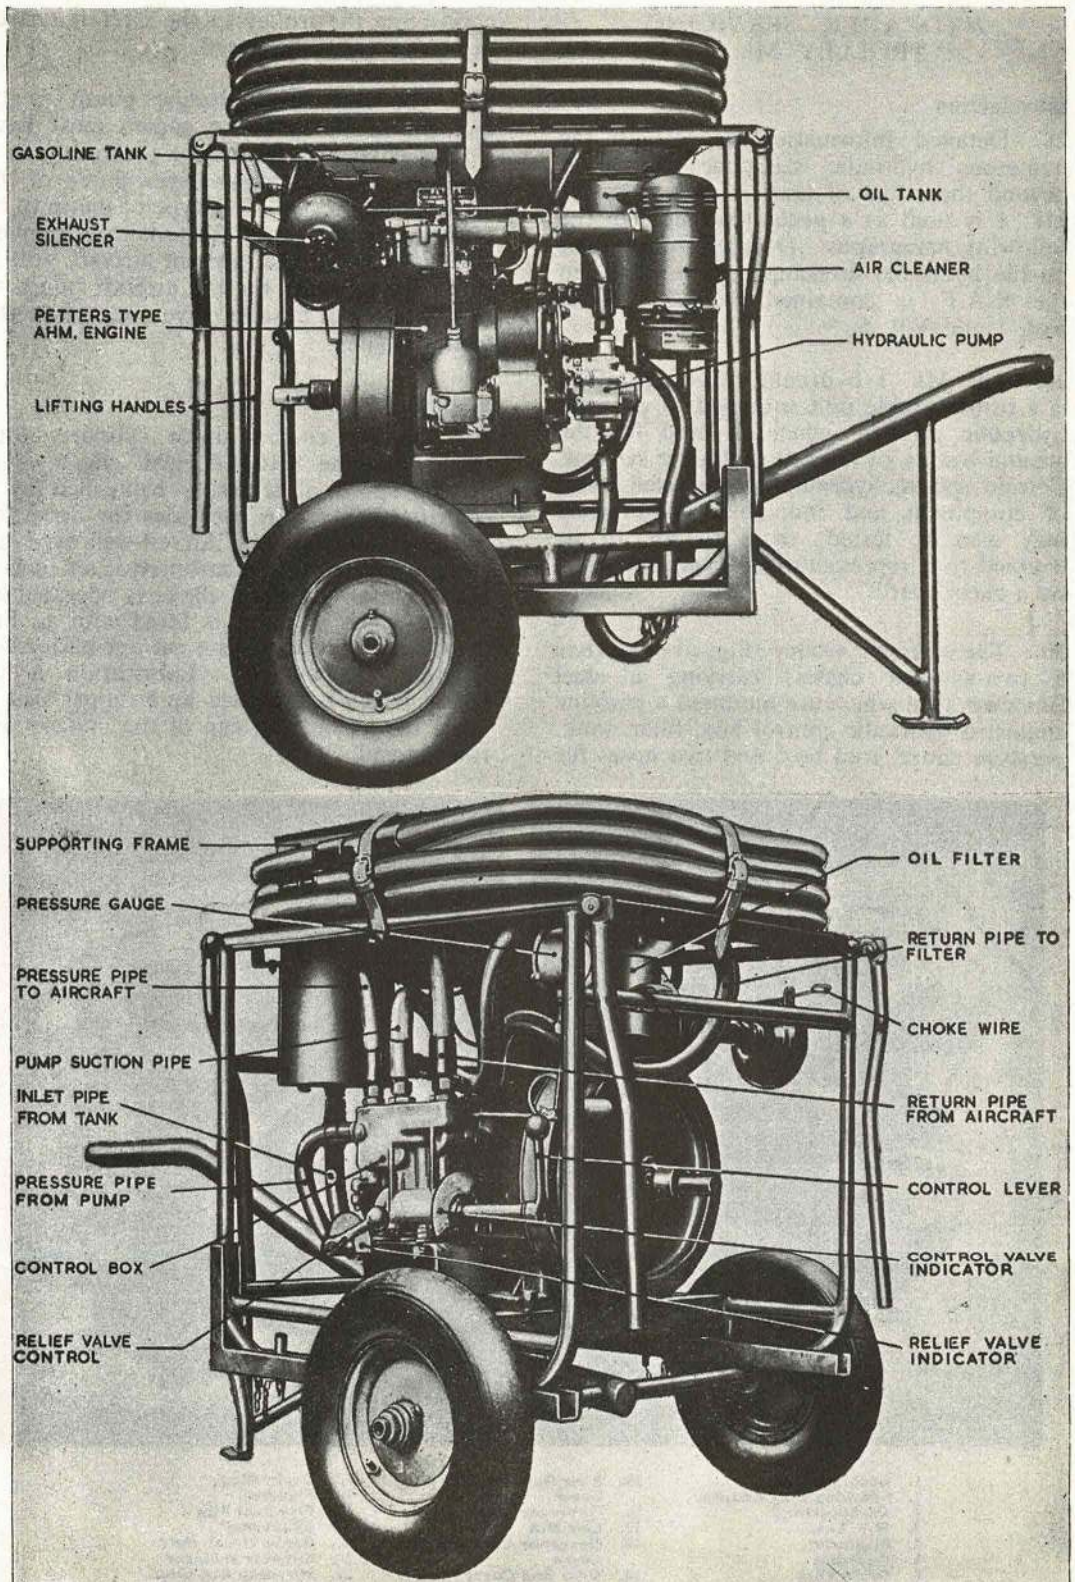

Fig. 6. HYDRAULIC SERVICING TROLLEY Mk. I
30. The servicing trolley (Fig. 6) comprises a two-wheeled chassis carrying a steel framework on which are mounted a gasoline engine, a hydraulic control box, filter, tank, pressure gauge, tool box, and two hoses for